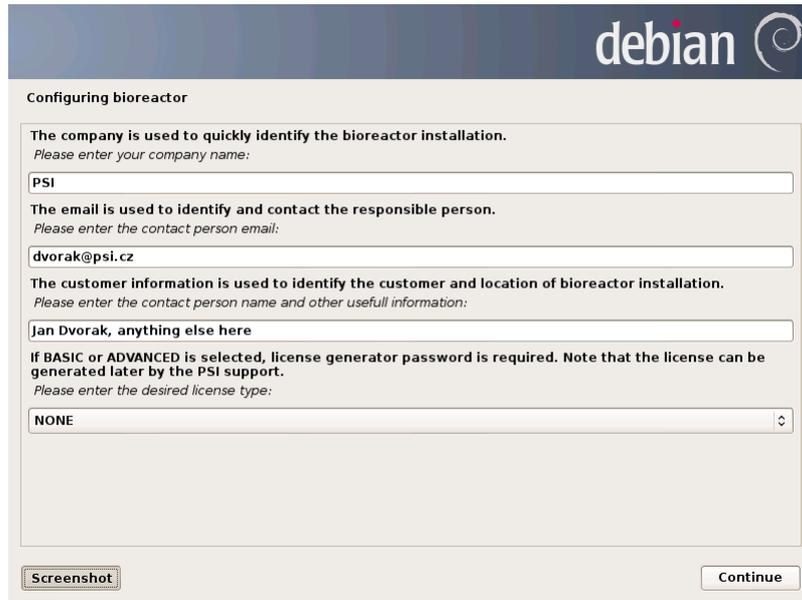

Fig. 57: Customer and license information
- On the next screen enter your company name, email and contact person (Fig. 57). Select license type NONE. The proper license will be delivered by PSI support, see section Install the License File on page 51